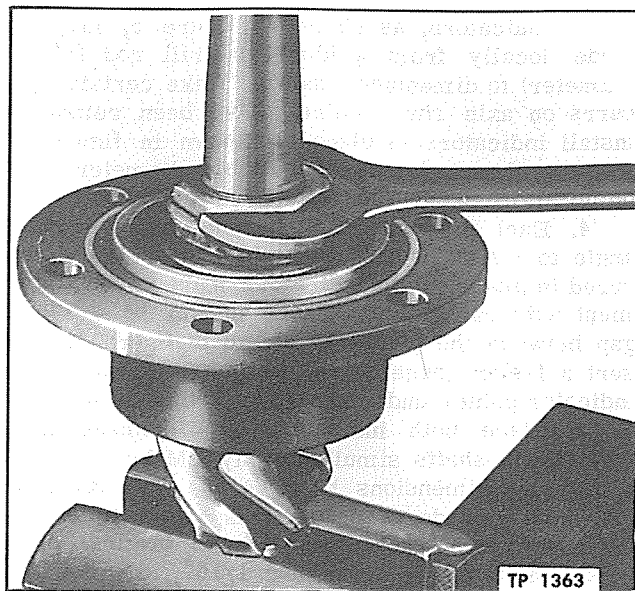

Figure 4—Drive Pinion Cage Disassembly
1. Mark pinion cage (45) and differential carrier (30) in a suitable manner with hammer and chisel so parts may be reassembled in same relative position.
2. Remove nuts (34) and lock washers (33) from studs (35). Install and tighten puller screws alternately until pinion cage (45), bearing and drive pinion assembly are free in carrier (30); then remove cage (45) assembly from carrier (30). Remove and tie shim (32) pack together to retain original shim pack to be installed at reassembly.
3. Remove bolt (53) and retainer (52) which secure inner bearing (51) on drive pinion (49); then remove inner bearing (51) and bearing spacer (50) from drive pinion (49).
4. Clamp flange (38) in a vise. Remove cotter pin and nut (39) from drive pinion (49). Remove flange (38), cover (41) and oil seal (41) assembly, and gasket (54) from cage.
5. Pry nut lock (36) lip away from lock nut (37); then remove lock nut (37), (fig. 4) nut lock (36), adjusting nut (42) and thrust washer (43), from drive pinion (49).
6. Position drive pinion and cage assembly in an arbor press and press drive pinion (49) out of pinion cage (45) and outer bearing (46). Remove outer bearing (46) from pinion cage (45). Use special bearing puller CS-1047, to remove inner bearing (31) from drive pinion (49).
7. Bearing cups (47 and 48) may be removed (if necessary) from pinion cage (46) with a brass drift and hammer.